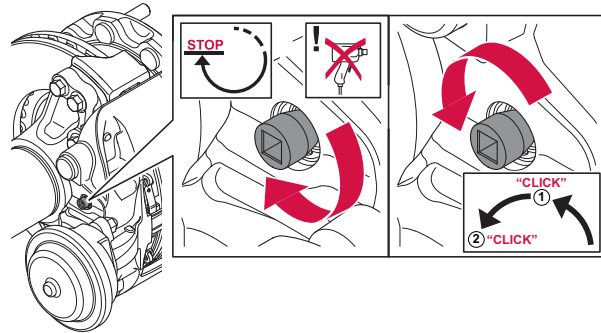

Figure 9.1. Initial brake pad setting
2. Then turn the reset shaft anti-clockwise by 2 clicks, see figure 9.1.